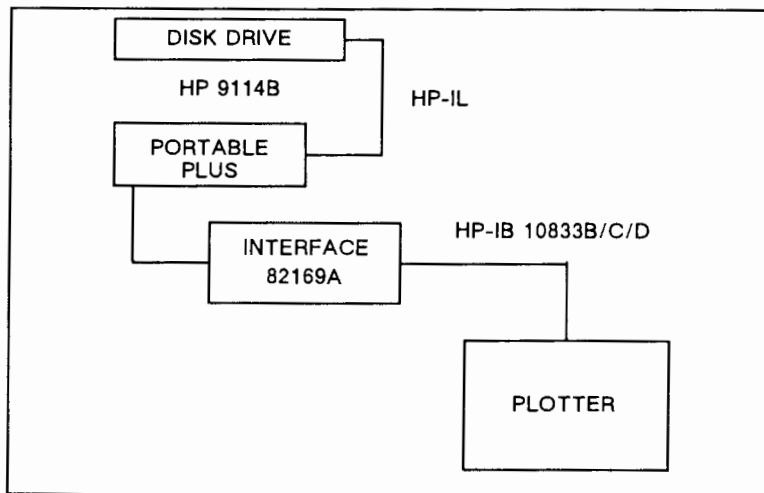

Figure 5-11. HP-IB Test
- d. Connect the Portable PLUS as shown in Figure 5-11.
- e. Turn the Portable PLUS and the disk drive ON (I). If the service disk (HP P/N C1600-60401) is not being used go to step j.
- g. Turn the plotter ON (I).
- m. Upon successful completion of the test turn OFF (O) all equipment before disconnecting.